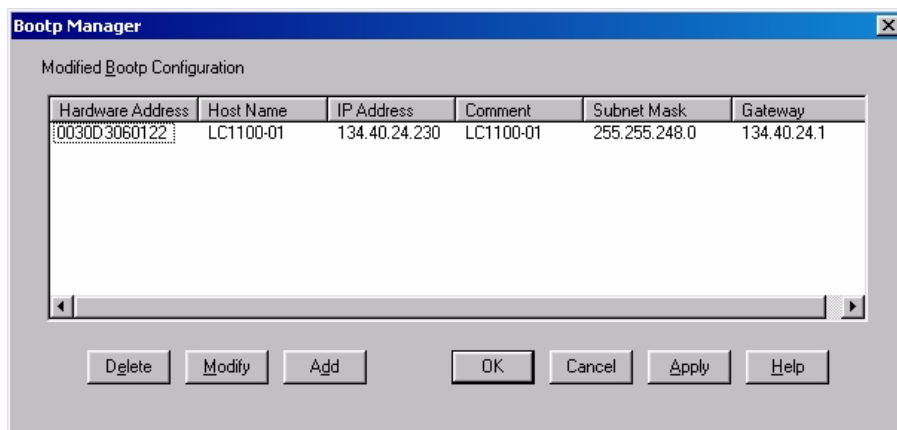

Figure 10 Bootp Manager
- 8 Select *Configure -> Bootp Manager*. All entries made above are shown in Figure 10 on page 35.